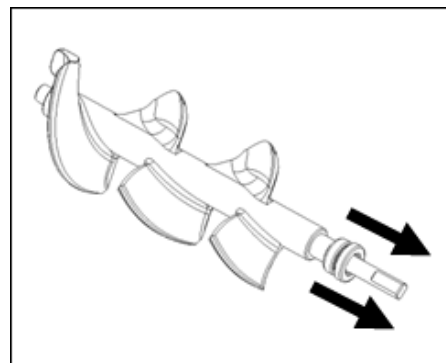
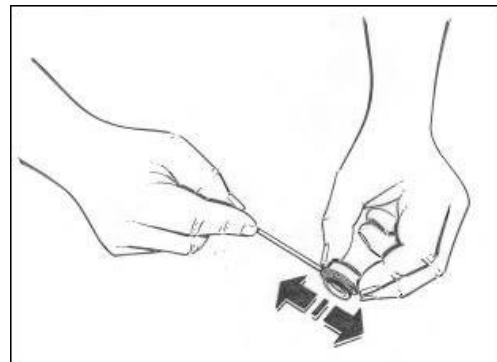

Fig. 44
Fig. 45
- Remove the rear seal (Fig. 44) and clean it carefully with the provided brush in order to remove any food residues that may be present (Fig. 45).